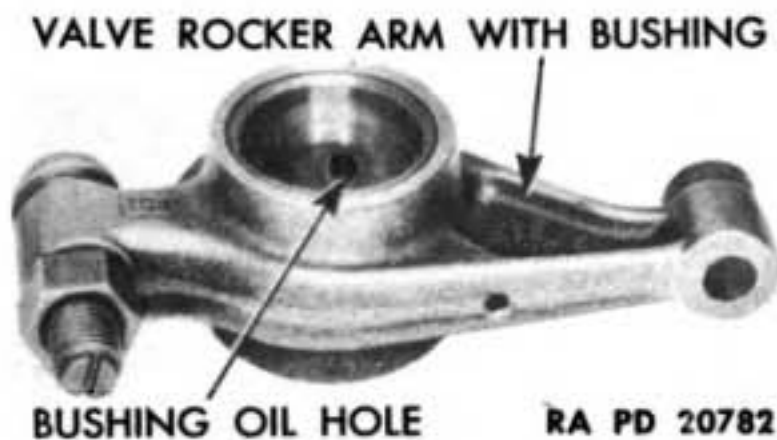
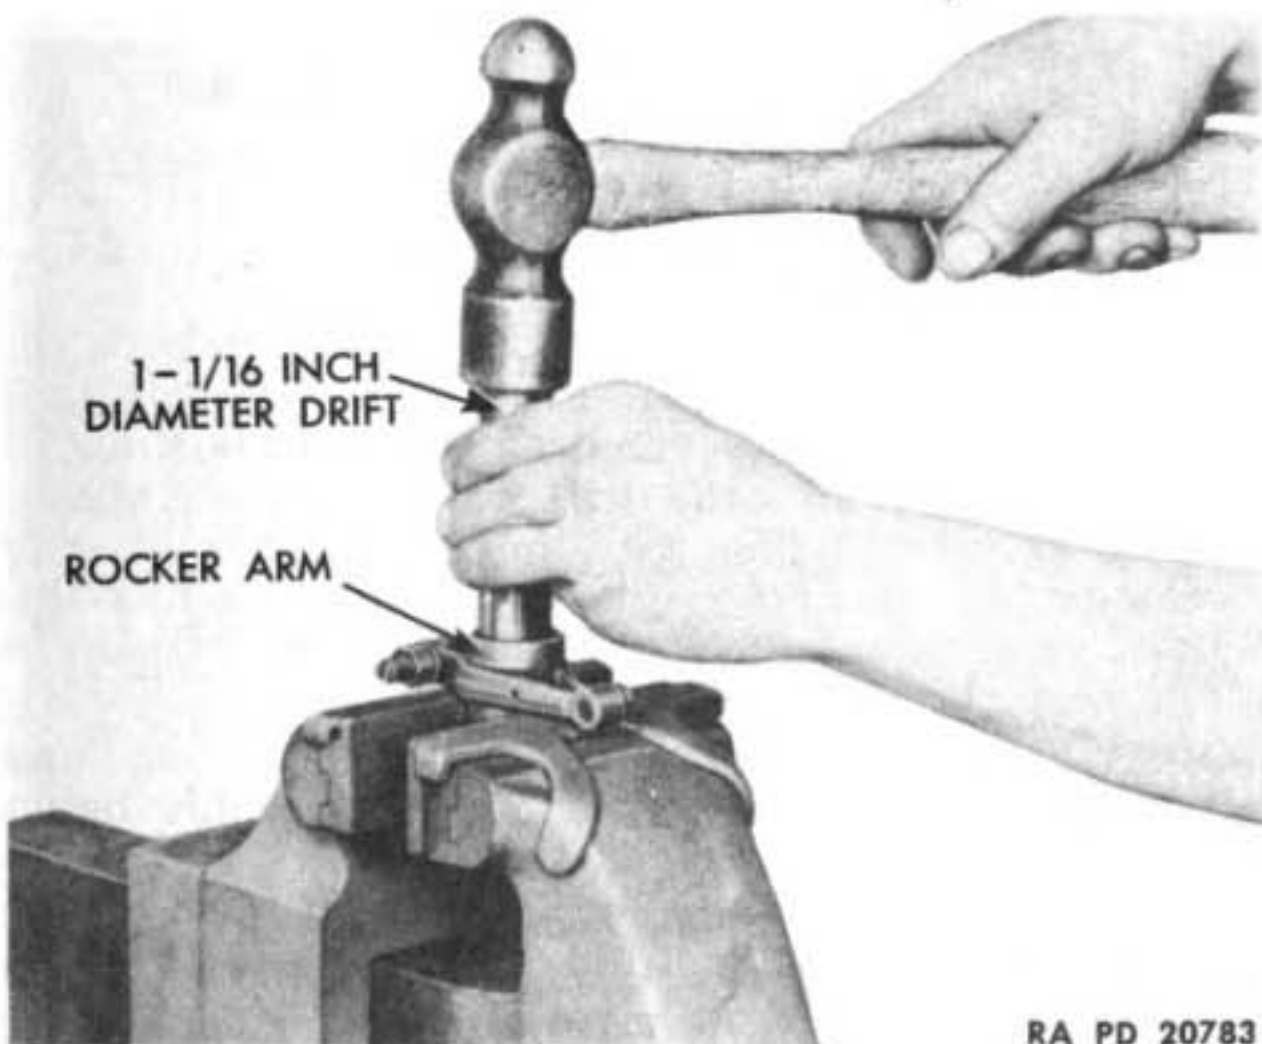

Figure 50 — Lining Up Bushing Oil Hole in Valve Rocker Arm
Figure 51 — Removing Valve Rocker Arm Bushing
(1) **ROCKER ARM BUSHING.** With a punch, make a mark on edge of bushing hole in rocker arm, directly in line with oil hole in bushing (fig. 50). Using a $1\frac{1}{16}$ -inch drift, drive out bushing (fig. 51). Drive in new bushing with same drift, making certain that oil hole in bushing is exactly in line with punch mark on rocker arm. **NOTE:** *One end of bushing hole in rocker arm is chamfered. The bushing must be driven in from chamfered side. Ream bushing to 0.9687 to 0.9692 inch.*